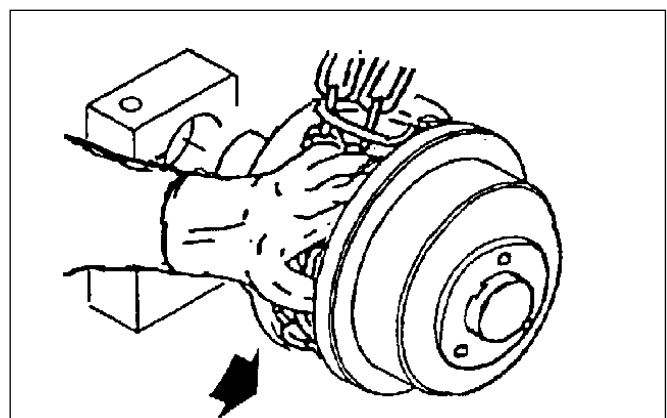

Fig. TSR-9 Shaft – Install Into Roller Body
4. Align hole in shaft (6) with hole in bracket (2), place a wood block under bracket and install roll pin (3). Push assembled shaft into roller body (fig. TSR-9).